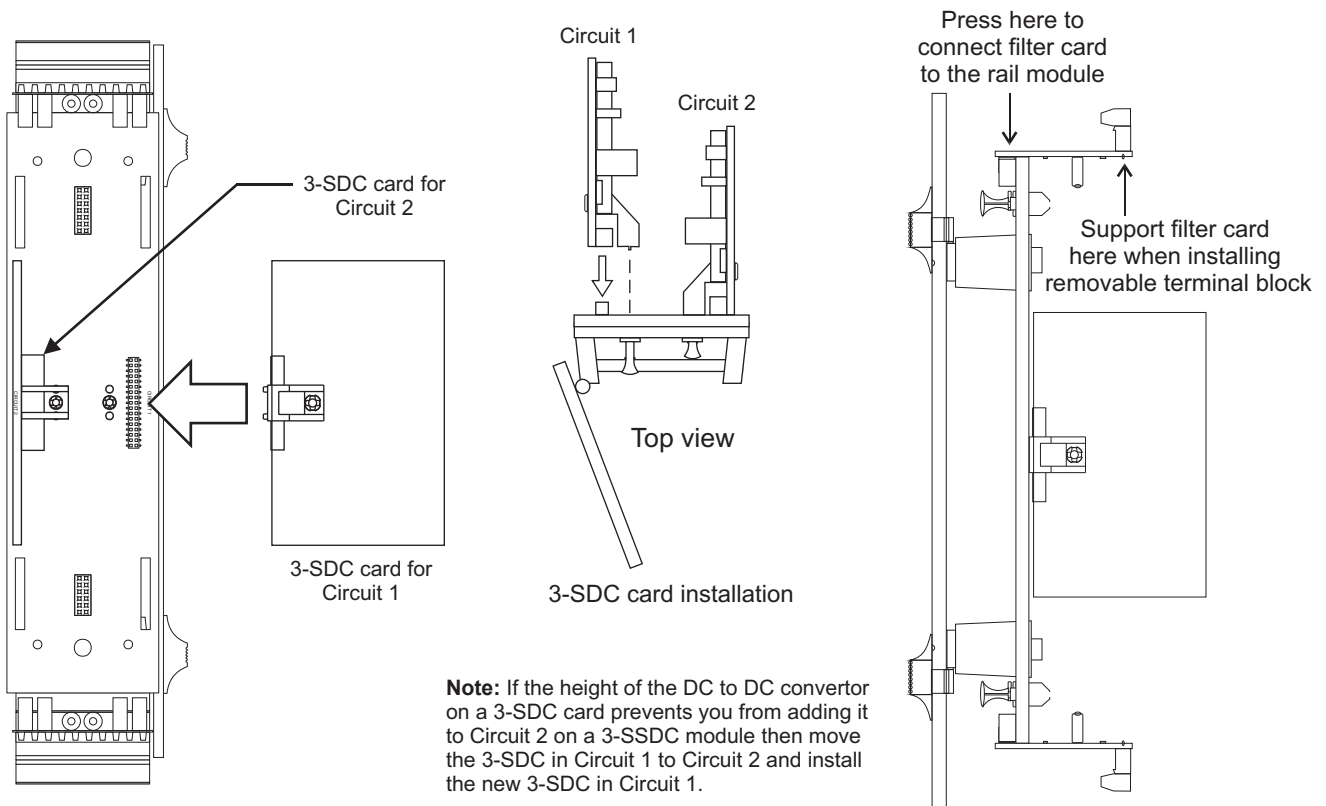

Figure-1: Filter card and 3-SDC card installation
1. Connect the 3-SDC card(s) to the appropriate connectors on the back side of the rail module assembly. See Figure-1.
Figure-1: Tamper switches mount to the top or side of their respective cabinets and are secured using hardware provided in the hardware kit. This figure shows the installation of a 3-TAMP.